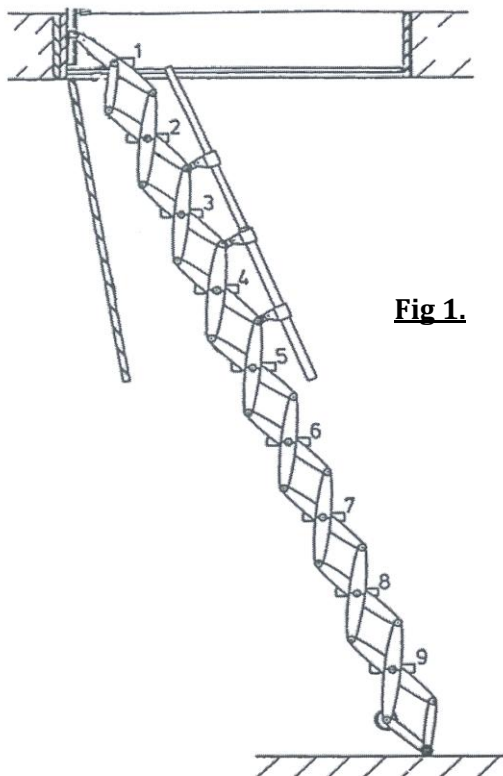

Fig 1.
The Junior Concertina ladder is supplied with an attached timber backboard (12) measuring 580mm (W) x 200mm (H). Before fitting the timber backboard to the loft opening the joist height should measure at least 125mm. If this is not the case then it is recommended that this be increased with the use of additional timber material securely fixed to the joist (Fig. 1 & 2). Ideally it is preferred that the joist height measures 200mm the same as the timber backboard. This is due to the fact that the unit is classed as a heavy duty product and considerable force will be exerted on all fixings so the increased joist height will make it more robust and secure.
For the Junior ladder the Handrail should be fitted to the tread positions 2, 3 & 4 (as shown in **Fig 1**).